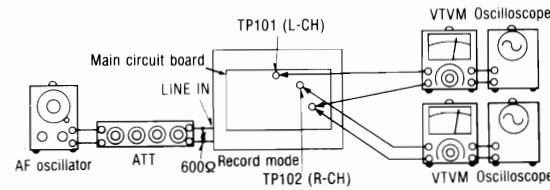

Fig. 18
1. Make connections as shown (See fig. 18).